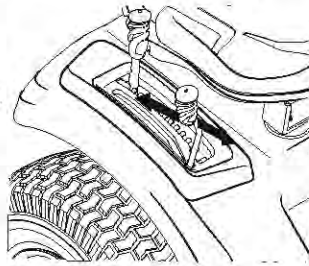

Figure 30
2. Push the PTO (Blade Engage) lever forward into the engaged (ON) position. See Figure 30.